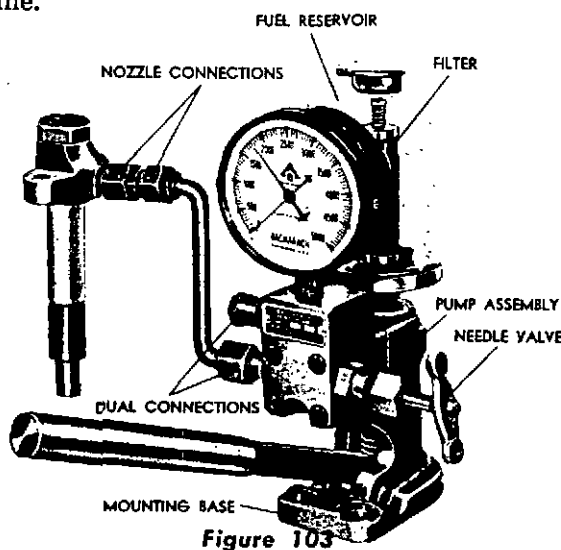

Figure 103
Use a special hydraulic nozzle tester, bolted to a bench and include a small fuel oil supply tank with filter so that only clean oil enters the nozzle. (Fig. 103.)
2. Open gage valve, work pump slowly and observe opening pressure. If not between 1750-1850 pounds/sq. inch, remove holder cap, loosen locknut and turn adjusting screw — IN to raise or OUT to lower the opening pressure. (Fig. 103). (New springs should be set 1900-1950 pounds/sq. inch to allow for set.) It is desirable to have all nozzles set as nearly alike as possible in the same engine.